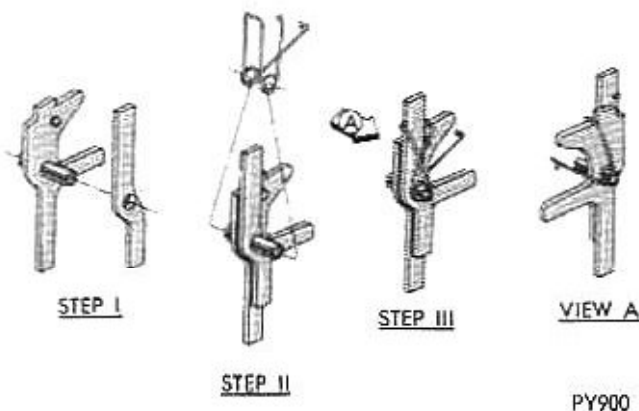

Fig. 30—Lock Levers and Spring—Assembly
(7) Grease and assemble the two lock levers, lock lever spring, and pin (Fig. 30).